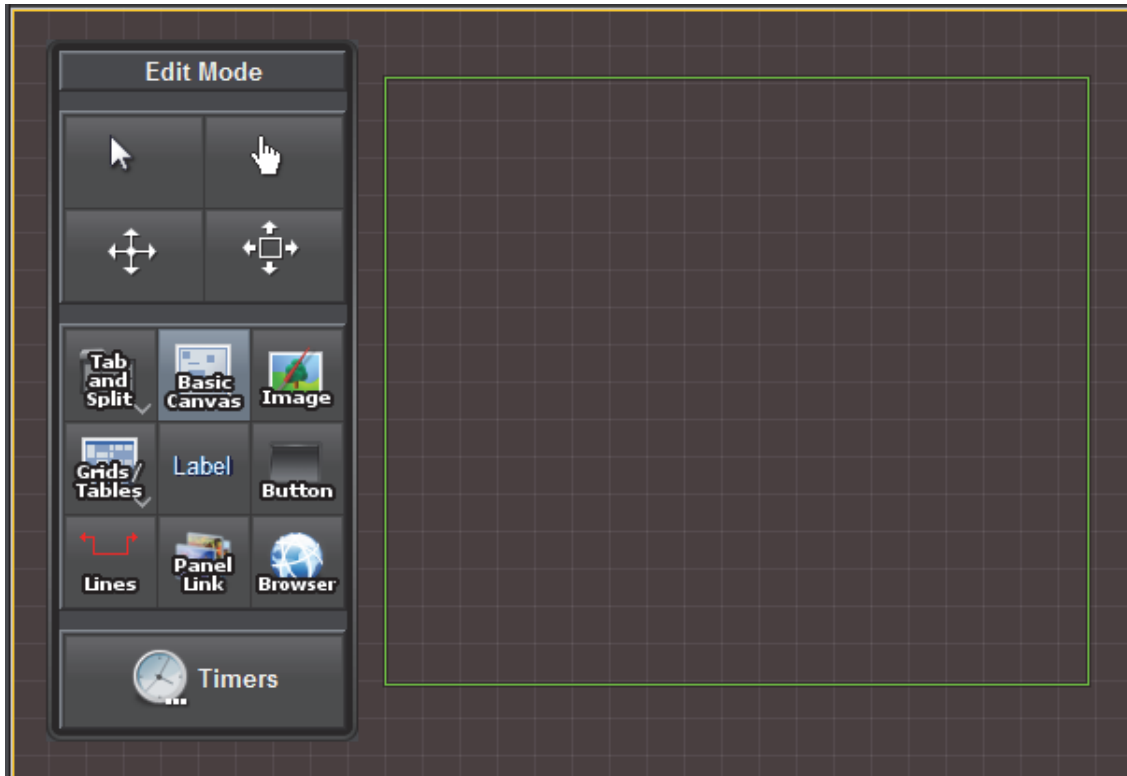

Figure 5.13 - Adding a Basic Canvas (with **Basic canvas** button selected, dragging to define canvas area)
2. Drag a box on the panel to define the canvas area. The area outlined in green in **Figure 5.13** is a basic canvas area.